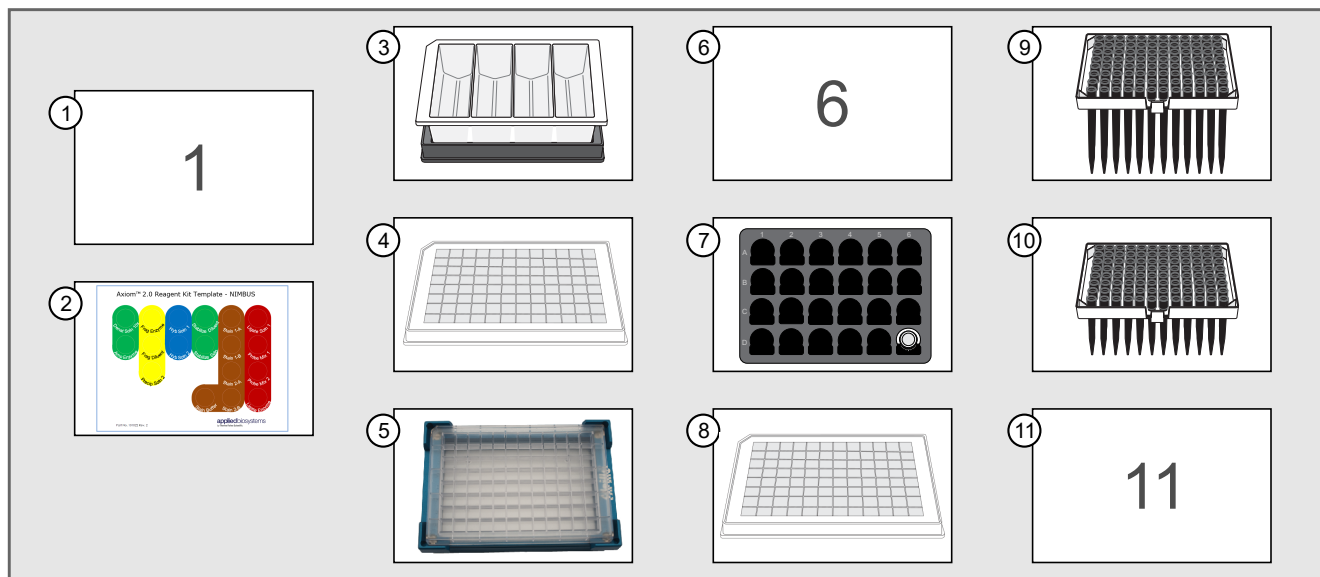

Figure 9 Labware change deck layout
3. Complete the labware change on the NIMBUS™ deck. See Figure 9.